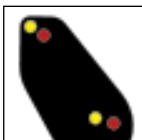

FIG. 5
***When installing 684 openers** use bottom holes for standard installation (pictured red in Fig. 5). Use top holes to add 3° more pitch (pictured yellow in Fig. 5).